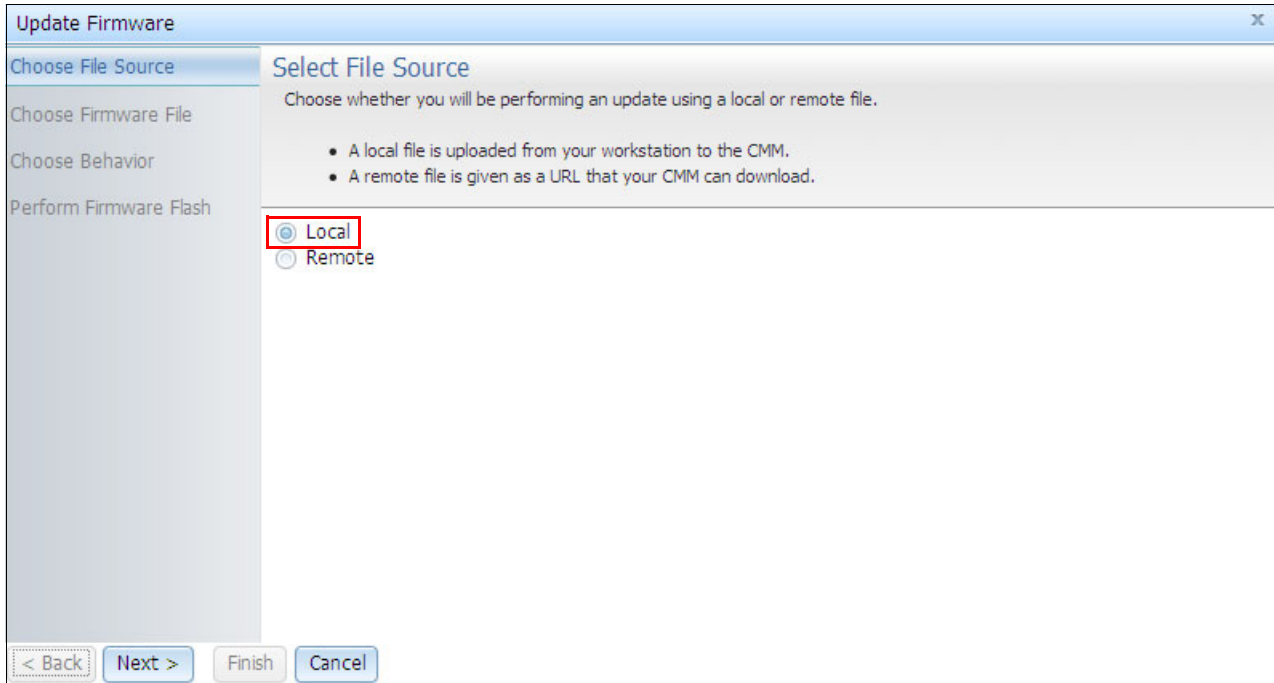

Figure 4-21 Select File Source window
4. The update Firmware window opens as shown in Figure 4-21. Proceed through each step of the wizard by clicking **Next** and entering the information as required.